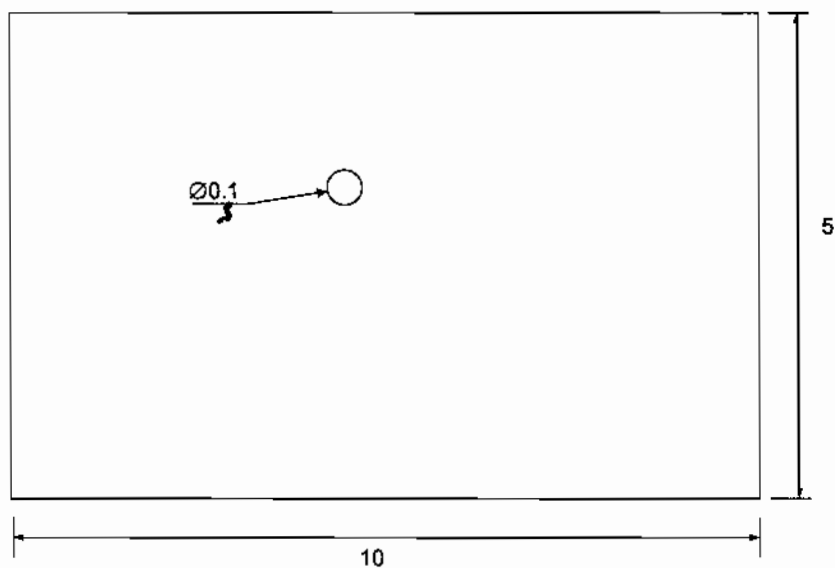

Figure 7 Schematic diagram of pipe suspended in a large room. Dimensions in m, not to scale.
- 7 A cylindrical pipe of diameter 100 mm and length 25 m is suspended in a large room of dimensions 25×10×5 m, as shown in Figure 7. The pipe is aligned parallel with the longest sides of the room. The pipe conveys liquid oxygen and its outer surface (surface 1) is at a temperature of 120 K. The average temperature of the room's walls (surface 2) is 20°C. The pipe's surface is diffuse and grey, with an emissivity $\epsilon_1 = 0.48$.